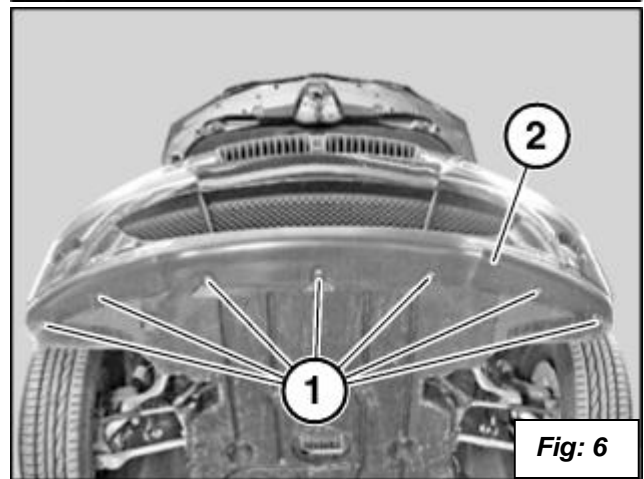

Fig: 6
9. Remove the screws in location (1) from the bumper (2). See **figure 6**.